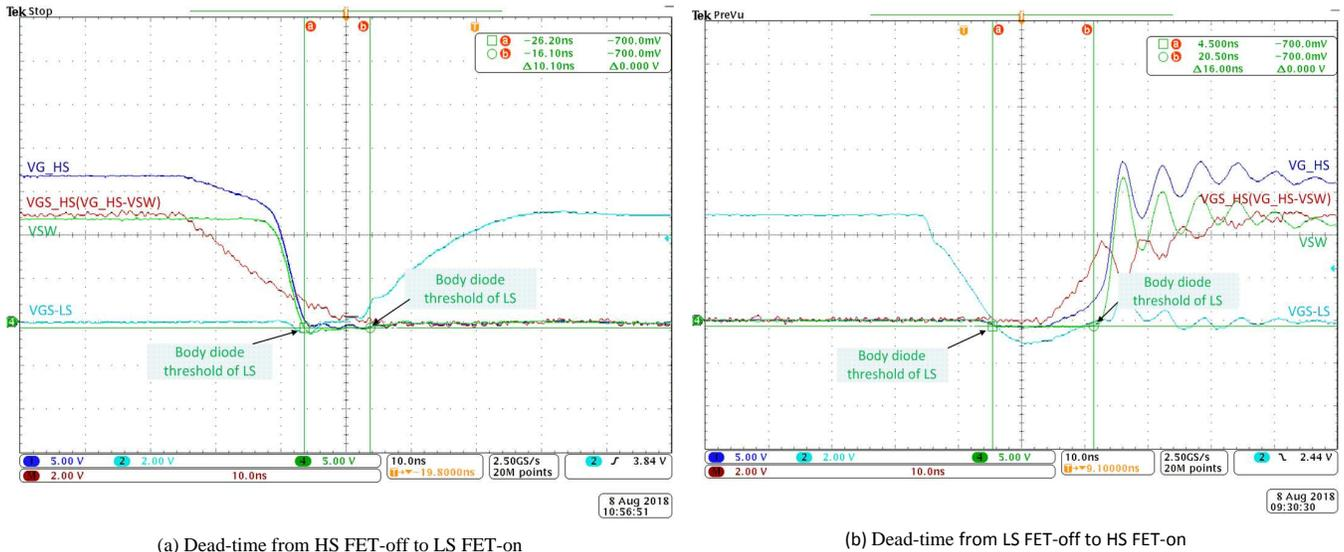

Figure 10. Dead-time Measurement for LS FET Body Diode Conduction
- Cursors locate at conduction time of LS FET body diode, generally it is  $-700\text{ mV}$ , Dead-time from HS FET-off to LS FET-on is  $10.1\text{ ns}$  and from LS FET-off to HS FET-on is  $16\text{ ns}$  (See Figure 10)